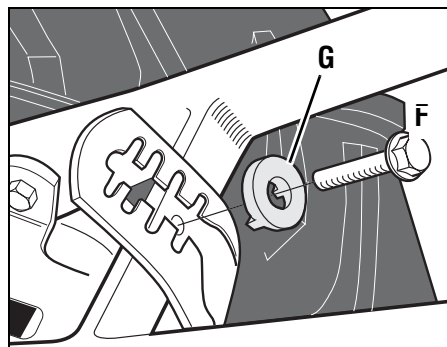

Figure 3-3: Handlebar height adjustment.
3. Loosen height adjustment screw (F, Figure 3-3) and pull keyed washer (G) free from slots in curved height adjustment bracket.